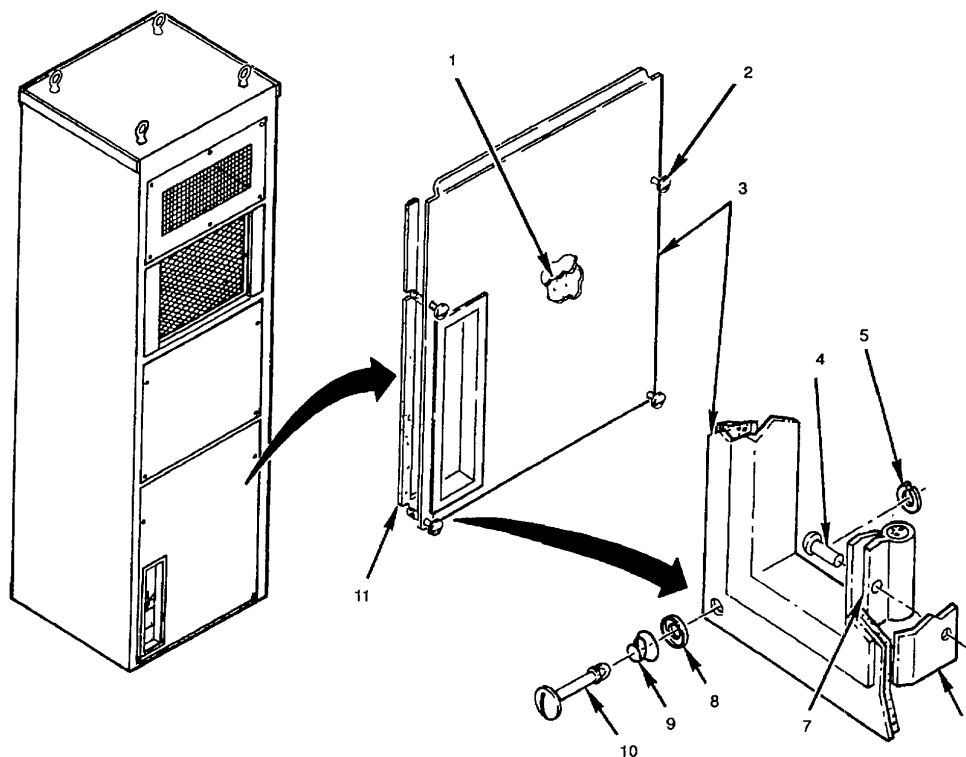

Figure 4-15. Compressor Section Panel
- (1) Disconnect air conditioner input power at source; and
- (2) Remove condenser fan section panel (paragraph 4.23).
- a. Loosen four captive fasteners (2) (see fig. 4-15).
- b. Remove panel (3)
- a. Check that panel (3) is not bent, cracked or punctured.
- b. Check that foam (1), foam gasket (11), or sponge gasket (7) are not torn, loose or missing.
- c. Check that captive fasteners (2), rivets (4), or gasket retainers (6) are not damaged or missing.